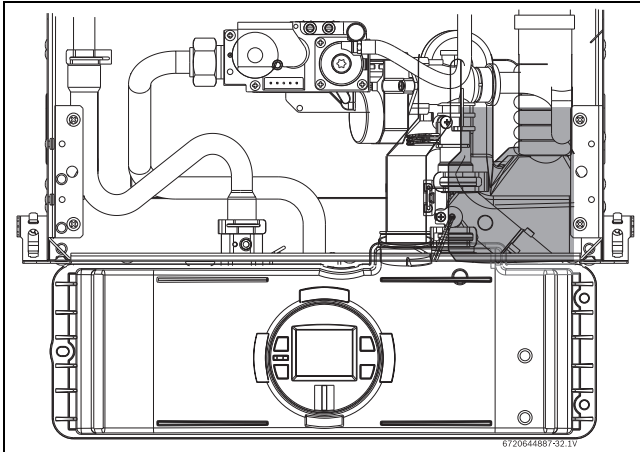

Fig. 38 Water level in condensate trap
- ▶ Put the control unit in service position by engaging its tabs with the holes in the bottom horizontal sheet metal, see fig. 38.